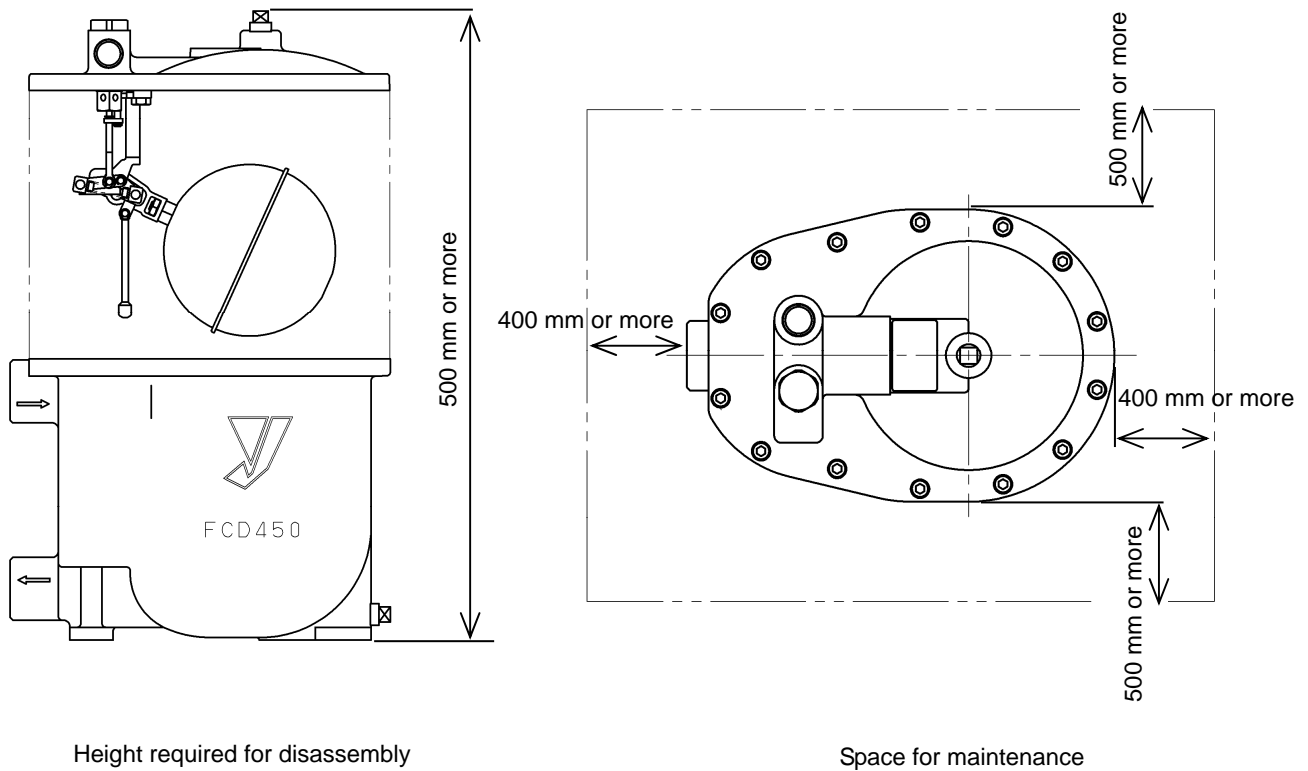

Fig. 10
(11) Provide the space for maintenance required for disassembling or correcting the product. (See Fig. 10.)